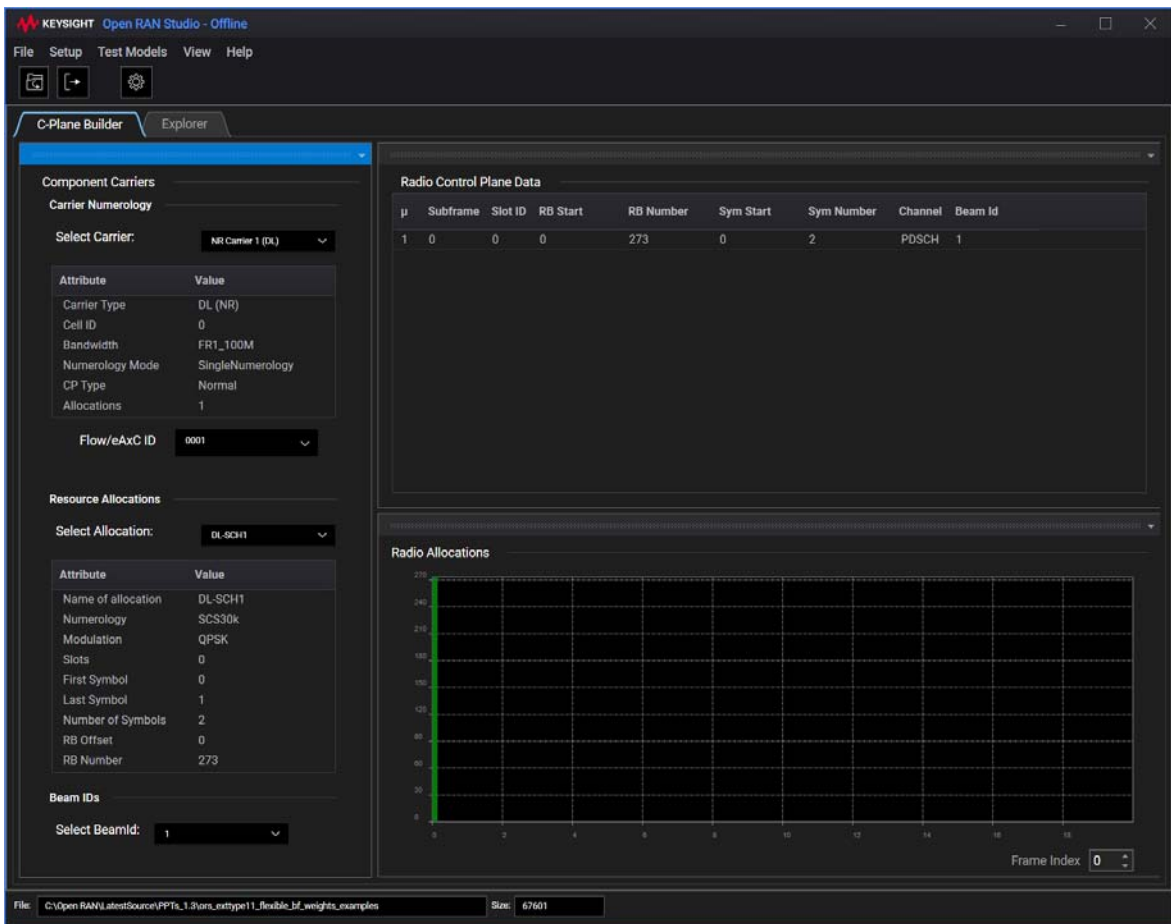

Figure 320 Assigning BeamId to the Radio Allocations
- 13 In the C-Plane Builder tab, assign Beam Id to the Radio Allocations, as shown in Figure 320.